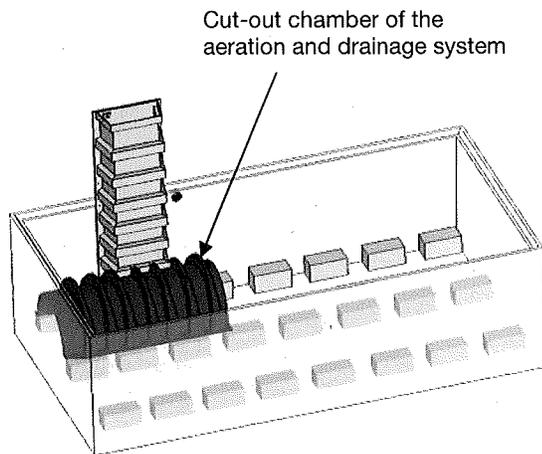

Figure 7
1.7 Install the aeration and drainage system inside the tank as illustrated on figures 7 and 8.